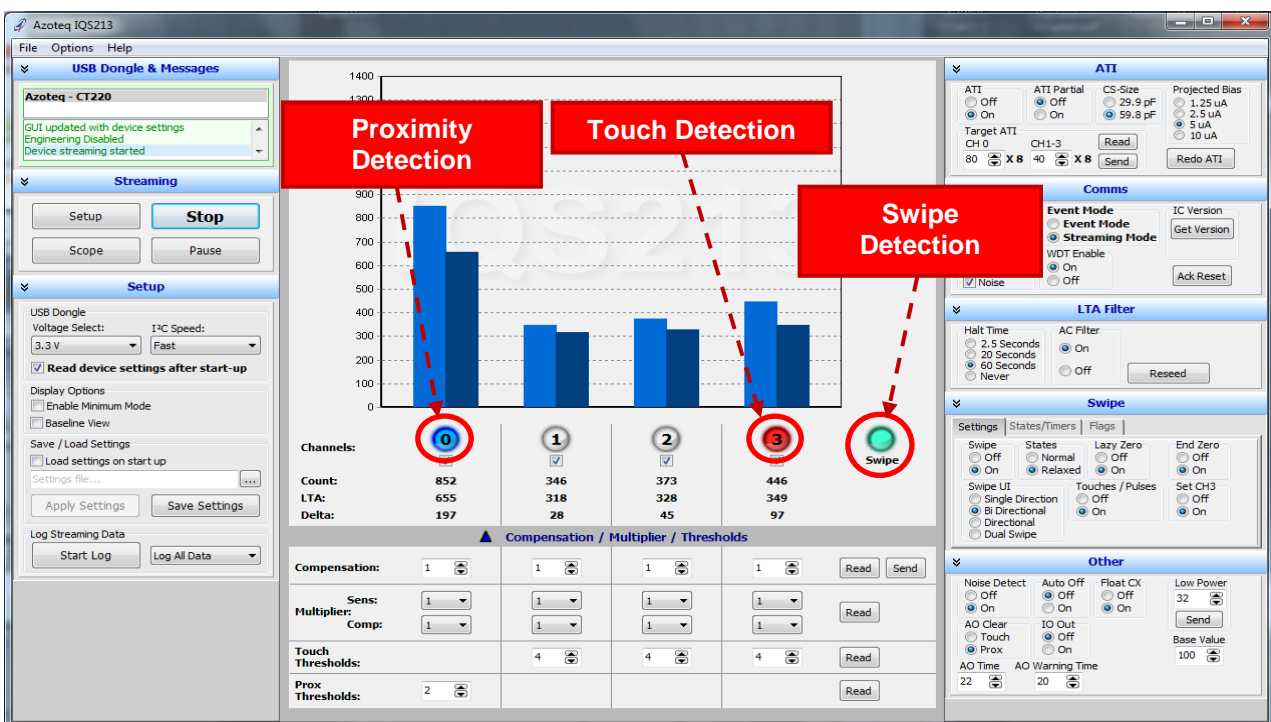

Figure 3.5 Proximity, Touch and Swipe indications
- ❏ Proximity, Touch and Swipe detection events are indicated in the GUI, by the channel light underneath the corresponding bar graph, as well as the Swipe Indicator light. A blue light indicates proximity detection, a red light indicates touch detection and the Swipe indicator swipe detection, as illustrated in Figure 3.5.